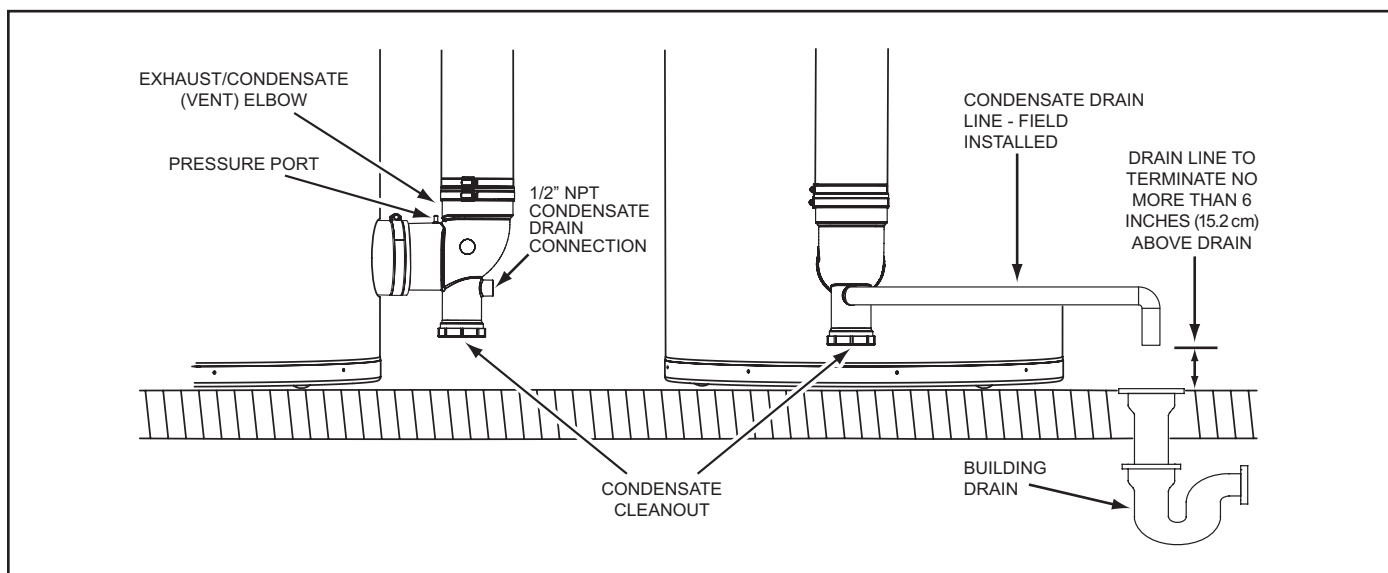

Figure 53
2. Install a 1/2 inch PVC condensate drain line between condensate drain connection on the Exhaust/Condensate Elbow and a suitable building drain, see Figure 53.
3. Terminate the condensate drain piping with an elbow above the drain. Ensure that any discharge will exit the condensate drain line no more than 6 inches (15.2 cm) above a suitable building drain, or external to the building, see Figure 53.
4. Ensure the condensate drain line is not elevated above the condensate drain connection on the Exhaust/Condensate Elbow, see Figure 53.